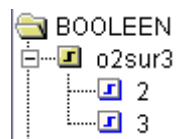

Figure 68 : Operators – Versions tree structure
4. Click  to access the tree structure of versions (Figure 68),
3. Click on icon  to display the version list of the model (Figure 68),